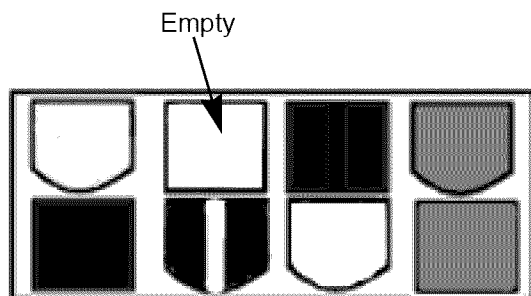

Figure 7.8
2. Looking at the plug head-on, it will be configured as shown in the diagram: There will be 8 female pin terminals. When probed they should yield the results described in the following sections. See Figure 7.8.